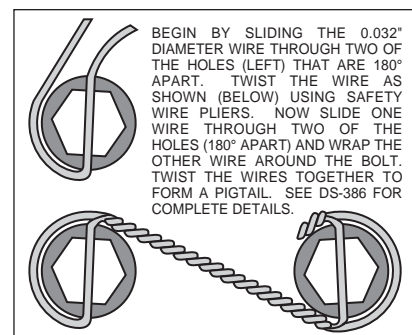

Figure 5. Safety Wire Diagram
- Make sure this is the correct kit to fit the axle housing flange, not necessarily the rear end make. Many times after market manufacturers put a different make of axle housing flange on the stock rear end housing (see Figure 5). Example; Big Ford rear ends with Olds-Pontiac flanges, therefore, an Olds-Pontiac rear disc brake kit would be the correct kit to order. Also, shock clearance may be a problem. They may have to be modified and/or relocated to clear the Wilwood kit after final assembly.
- With the larger I.D. side of the rotor (3) facing away from the hat (2), bolt rotor (3) to hat (2) through the backside of the rotor using washers (4) and bolts (5). Using an alternating sequence, apply red *Loctite*® 271 to the threads and torque bolts to 140 **in-lb**. For an added measure of security, the bolts may be safety wired using standard 0.032 inch diameter stainless steel safety wire as shown in Figure 5. Please refer to Wilwood's data sheet DS-386 (available at www.wilwood.com/Pdf/DataSheets/ds386.pdf) for complete safety wire installation instructions.